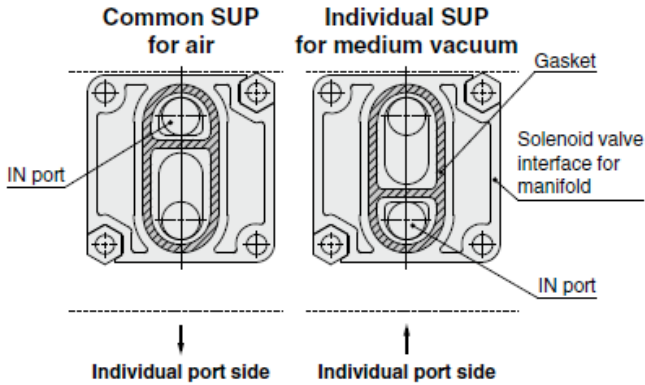

Figure 5
- Be aware of mounting orientation when mounting valves onto manifold base. Mount as shown in Figure 5.
- Take extra care when special electrical entry direction (XC) is used.